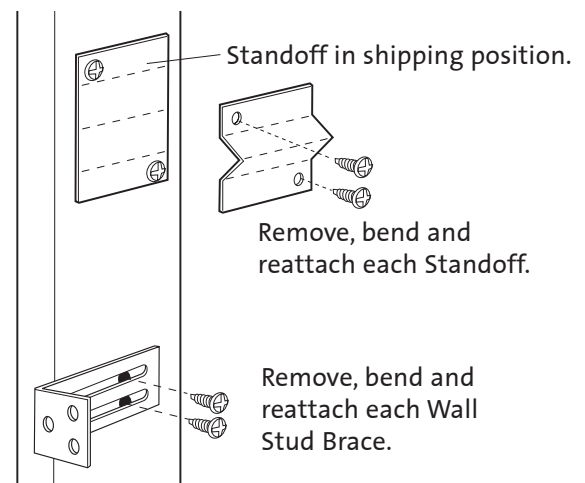

Figure 24. Standoff and Stud Brace orientation.
1. Side Standoffs: Remove the retainer screws. Using vise grips or pliers, fold each standoff at the perforations. Secure each standoff using the screws previously removed. See Fig. 24.
2. Wall Stud Brace: Loosen, bend, and position each cabinet Retainer Strap for attachment to the fireplace enclosure. Fig. 24.